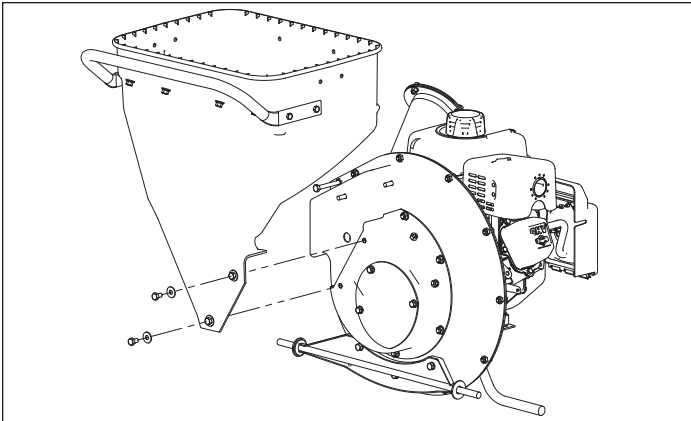

FIGURE 17 - Removing the Shredder Hopper
SEE FIGURE 17
3. Detach the shredder hopper from the rotor housing. **SEE FIGURE 17** (previous page)